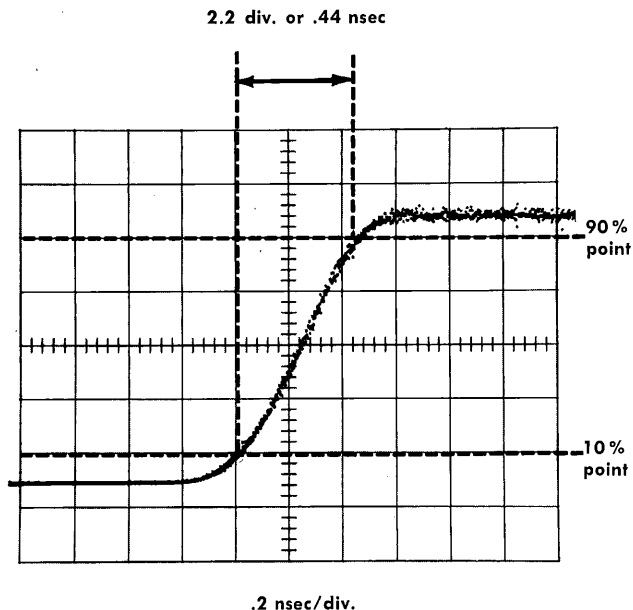

Fig. 3-1. Determining pulse risetime.
3. Measure the horizontal distance between the 10% and 90% amplitude points on the waveform. See Fig. 3-1.